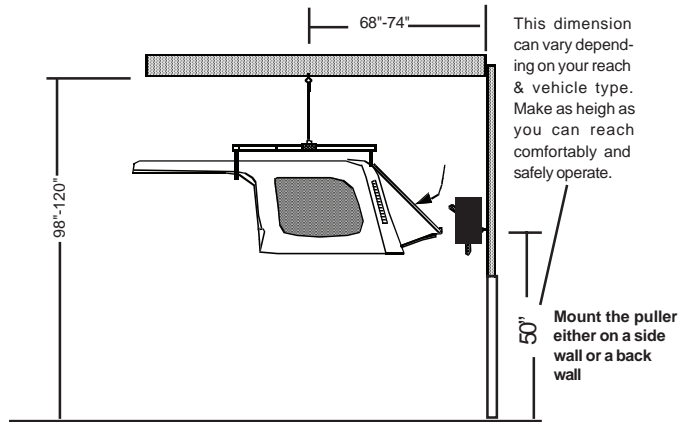

Figure 2, Typical Layout Measurement
- 1 Prepare your site, measure and mark according to Figure 2 and 2A. Use Fig. 3 to layout the ceiling with 2, 2x6 supports.
Use Figures 2 and 3 to mark your ceiling at the point where the pickup spot for your Jeep is located. Back the Jeep in to the garage and drop a plumb bob to find the approximate spot. Leave enough room at the back between the wall and the top to work raising and lowering your top.